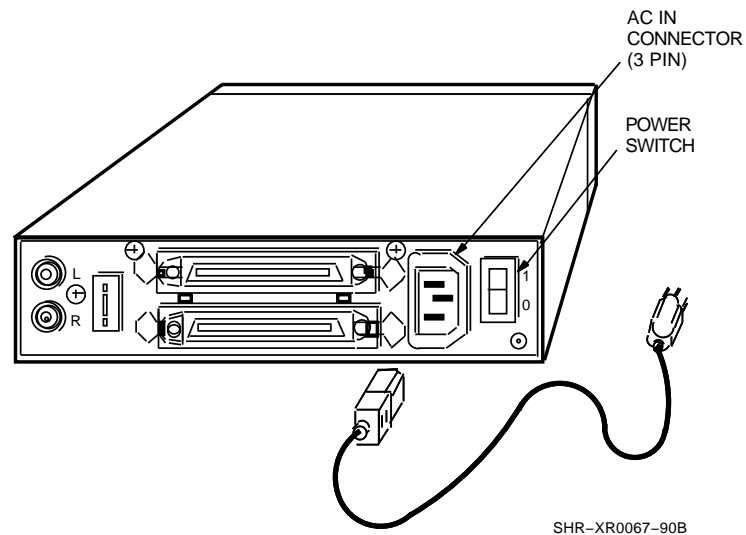

Figure 2-6 Connecting a Power Cable to the RRD42 Drive Power Connector
1. Make sure the RRD42 drive power switch (Figure 2-6) is off.
2. Connect the power cable to the RRD42 drive's power connector (Figure 2-6).